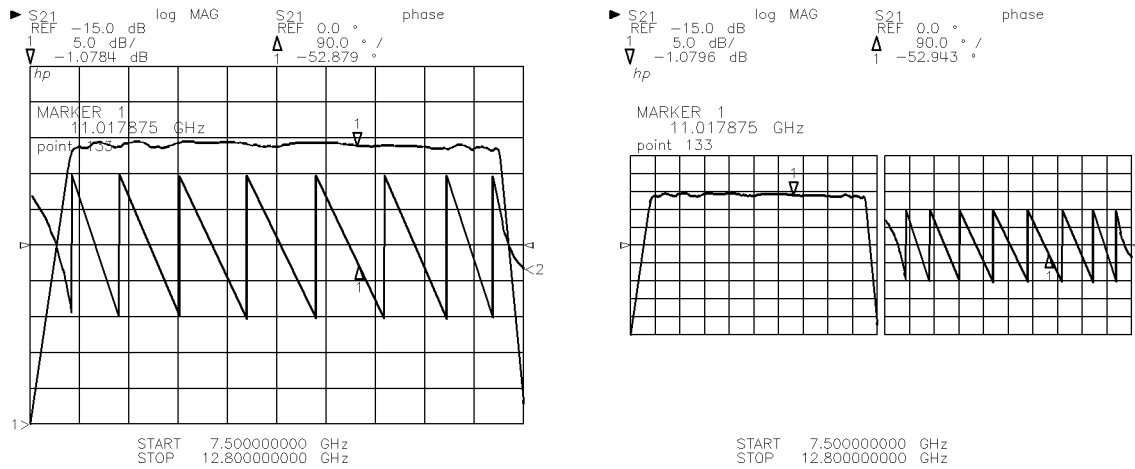

Figure 4-4. Dual Channel Overlay and Split Displays
- **DUAL CHAN OVERLAY** displays both measurements full size on the format selected for each channel. A dual channel overlay trace showing Log Mag for both channels is shown in Figure 4-4, although any parameter, format, and response settings can be selected for either channel. For Cartesian displays, trace labels identify the traces for the two channels: the label 1 (identifying the trace from channel 1) appears on the left of the graticule; the label 2 (channel 2) appears on the right of the graticule.